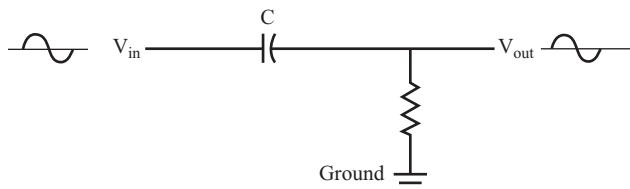

FIGURE 6.2
- 4** For simplicity, consider all inputs at this time to be pure sine waves. The circuit shown in Figure 6.2 shows a sine wave as the input signal to a capacitor.